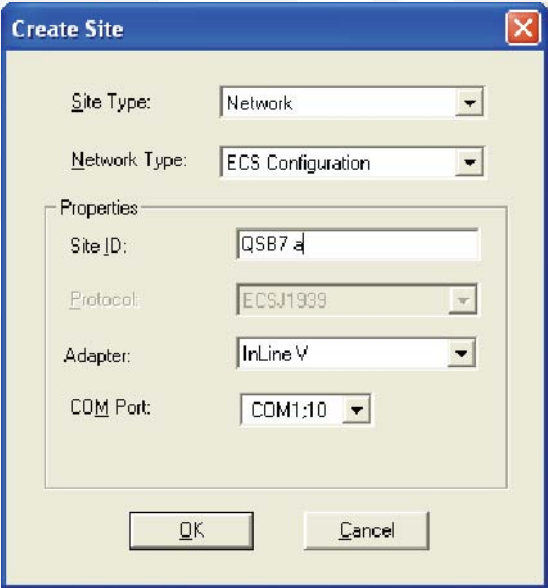

FIGURE 229. ADDING SITE INFORMATION
3. The Create Site window is displayed (Figure 229). Select 'Network' for the Site Type, select 'ECS Configuration' for the Network Type, type in the appropriate Site ID, select the Adapter being used, and select the COM Port being used. Click on **OK**.